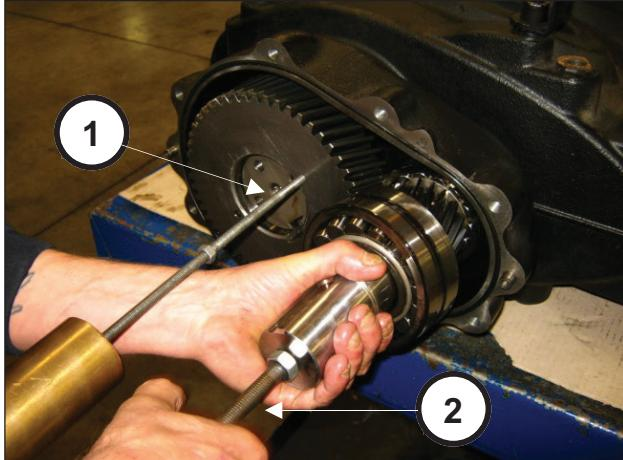

Fig. 12
In order to remove the pinion + ring gear assembly it is necessary to apply extractor hammers to the 2 M8 holes of the ring gear (pos. ①, Fig. 12) and to the pinion M14 hole (pos. ②, Fig. 12).